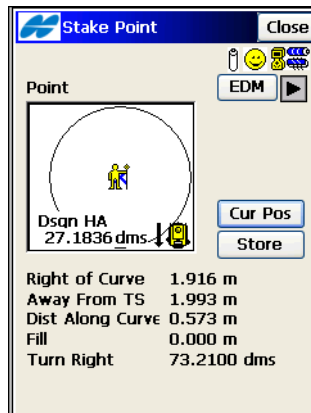

Figure 9-20. Stakeout Curve
- For TS: sight the prism. On the **Stake Point** screen, tap the **Cur Pos** button to check the position (Figure 9-20). Tap the **EDM** button to select distance measurement mode, either *Coarse*, *Fine* or *Coarse Tracking*. Once the position is close enough to the curve and at the desired distance from the starting point, tap **Meas** to store it.